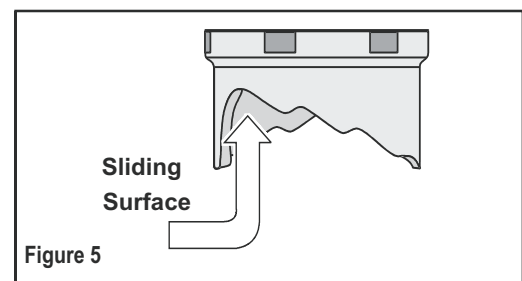

Figure 5
- Rear ride height can be adjusted by turning the adjusting cam to a higher setting. This is also used to stiffen the shock if excessive bottoming occurs while riding the bike. Apply a small amount of the provided lubricant to the sliding surface of the cam and use the spanner wrench to rotate the cam. **Figure 5**